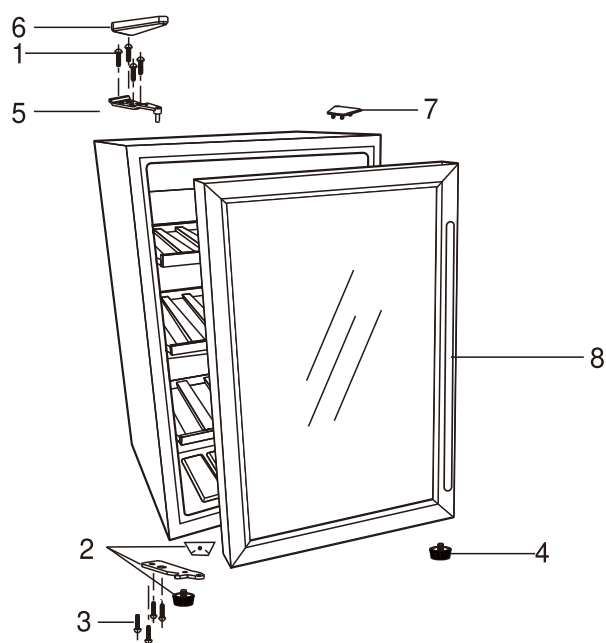

Fig. 2
- Remove the cover plate (Fig. 2: No.7) covering the upper hinge holes.
- Reverse the direction of lower hinge (Fig. 2: No. 2).
- Install the lower hinge, front leg and door stop (Fig. 2: No. 2) on the lower frame with screws (Fig. 2: No. 3).
- Holding the door in the closed position, secure the upper hinge (Fig. 2: No. 5) to the door and screw into the frame (Fig. 2: No. 1). Note: Do not fully tighten the screws (Fig. 2: No. 1) until the top of the door is level with the top of the unit.
- Install upper hinge cover (Fig. 2: No. 6) over the upper hinge.